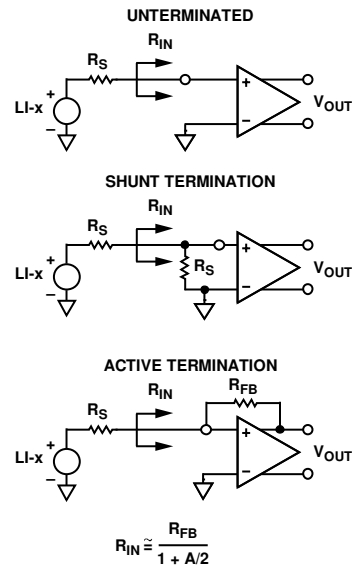

Figure 44. Input Configurations
The short-circuit noise voltage (input-referred noise) is an important limit on system performance. The short-circuit noise voltage for the LNA is 1.3 nV/ $\sqrt{\text{Hz}}$  at a gain of 21.3 dB, including the VGA noise at a VGA postamp gain of 27 dB. These measurements, which were taken without a feedback resistor, provide the basis for calculating the input noise and noise figure (NF) performance of the configurations shown in Figure 44.